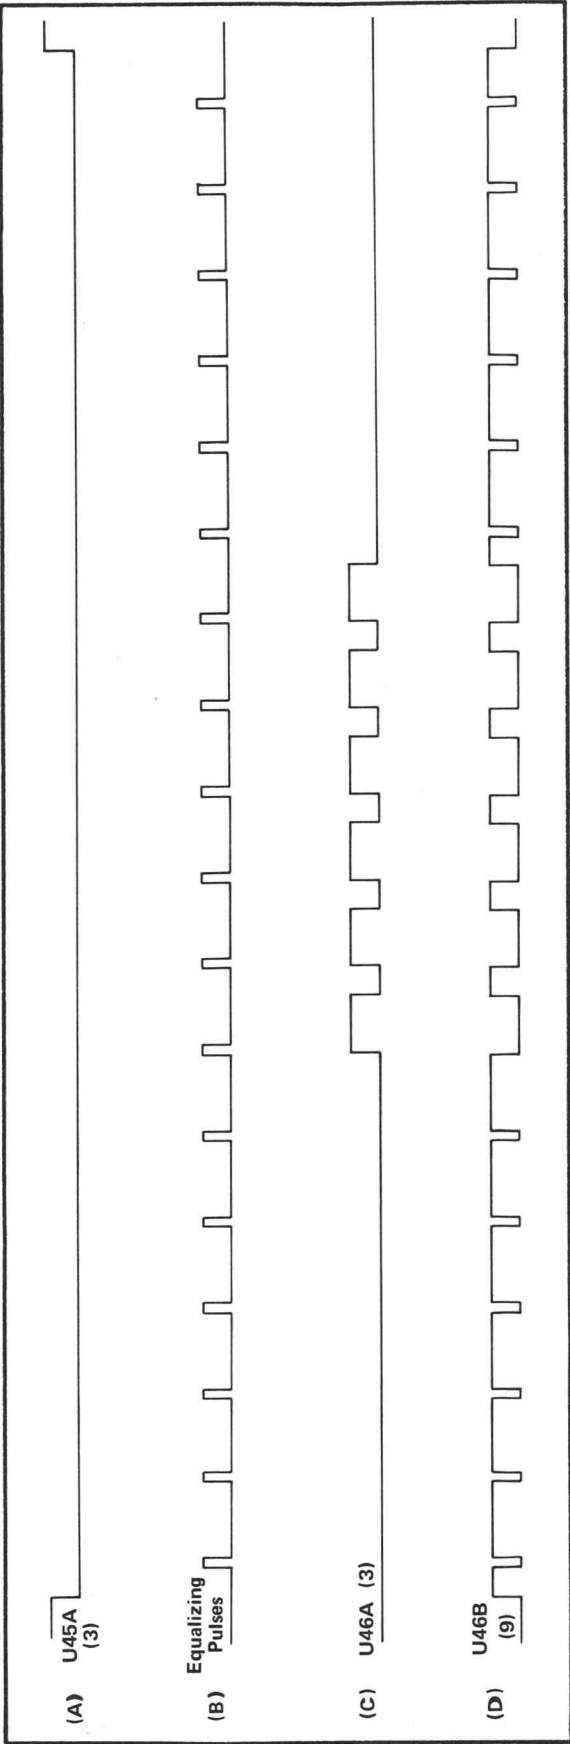

Fig. 3-8. Waveforms illustrating the inputs and output of U46B.
which is the serrated vertical pulse, is coupled to U46B (10). The signal at U45A (3) and the equalizing pulses from the equalizing-pulse multi are also coupled into U46B. The three inputs and the output of U46B are illustrated in Fig. 3-8 A, B, C, and D. The signal at U46B (9) is the portion of the vertical blanking containing the equalizing pulses and the serrated vertical sync pulse.